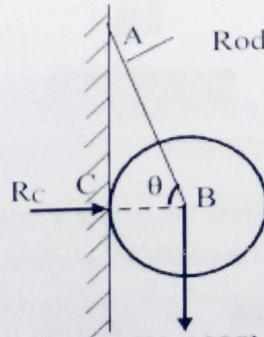

Fig 2.20
- 1) A circular roller of weight 1000 N and radius 20 cm hangs by a tie rod AB = 40 cm and rests against a smooth vertical wall at C as shown in Fig. 2.20. Determine the tension in the tie rod and reaction RC at point C.